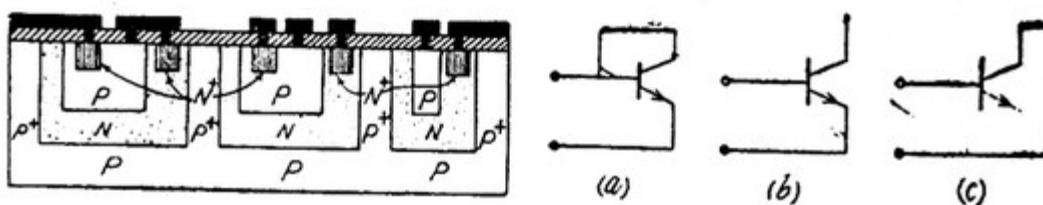

Fig. 20. (a) Emitter-base diode with collector short circuited to base.
- (i) Using the emitter base diode with collector short circuited to base shown in fig. 20 (a).
- (iii) Using the collector base diode with emitter open (or not fabricated at all) as shown in fig. 20 (c).